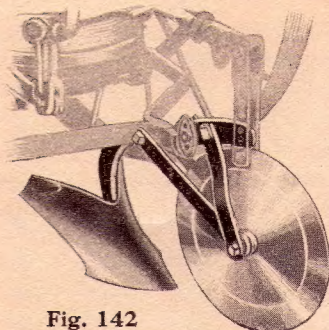
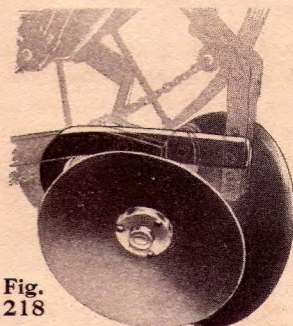

Fig. 142
Fig. 218
- No. 400RA — (No. 400R with single disc plow, Fig. 142, page 8).....
- No. 400RB — (No. 400R with double disc plow, Fig. 218, page 8)....
Four styles of plows are made for opening furrows. The choice is yours and in each case the soil is left loose on each side of the furrow. All of them can be set for depth. The shield opening plow, described on *page 3, Fig. 476*, is usually shipped, because it is best for most kinds of soil. It may be ordered as an attachment including only parts necessary to change from *Fig. 142* or *Fig. 218*.
Fig. 142 is for use in extremely trashy ground and long vines. The disc does better work and eases the draft for the plow. If wanted on new machine, order by adding letter "A" to the number, as No. 400A.
Fig. 218, show up best where cow peas or other growth has been plowed under (as is common in the South). The discs open a path that permits the planter to pass without interference in any way. If wanted on new machine, order by adding letter "B" to the number, as No. 400B.